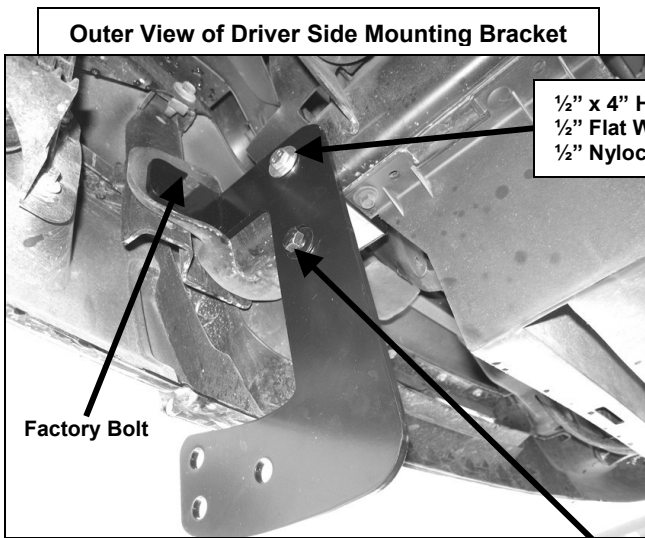
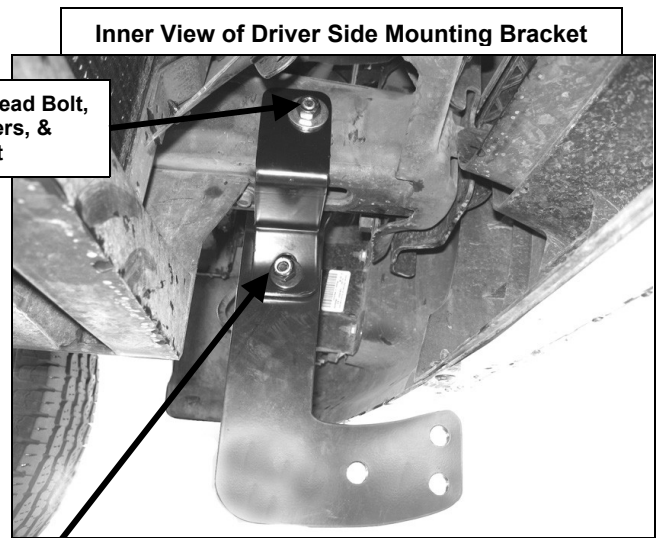

Figure 2
Figure 3
2. On the driver side, locate and loosen the factory nut located directly behind the bumper by the front end of the frame (**Figure 2**).
3. Position driver side Mounting Bracket over factory bolt. The hole on the side of the Mounting Bracket should line up with the factory hole on the frame. Position the driver side Mounting Support Bracket on the other side of frame as shown in **Figure 2**. Secure Mounting Bracket and Mounting Support Bracket to frame with the included (1) 1/2" x 4" Hex head Bolt, (2) 1/2" Flat Washers, and (1) 1/2" Nylock Nut (**Figure 3**). **NOTE:** Do not fully tighten any bolts until you have the complete Grille Guard assembled, as you may have to adjust Brackets and Grille Guard.